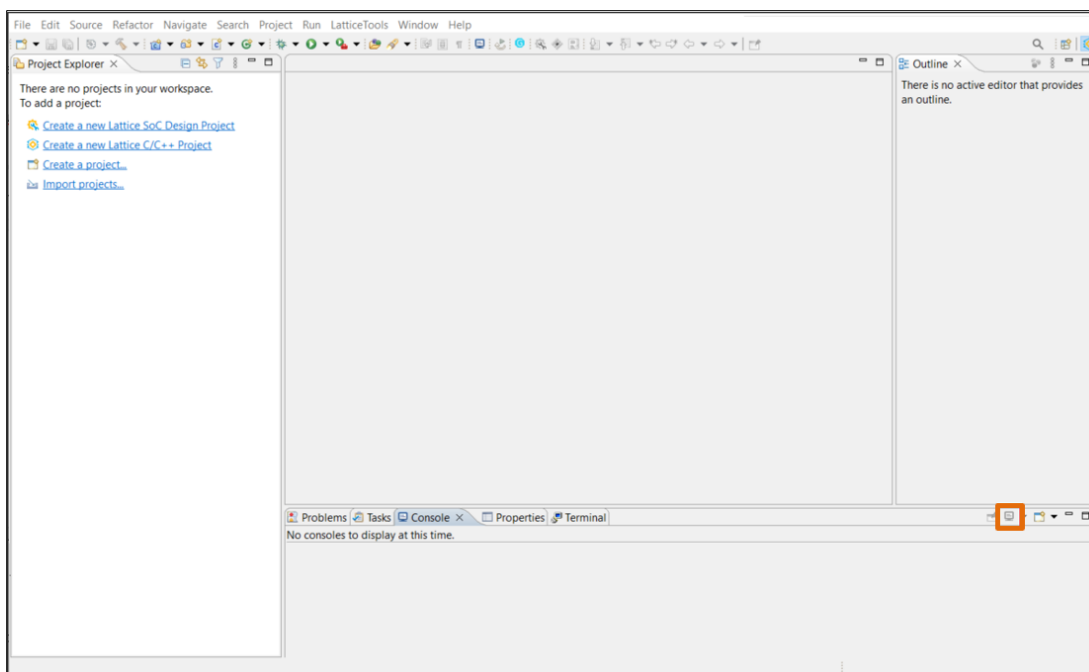

Figure 6.4. UART Terminal Icon on Propel SDK Window
3. Double-click on the terminal icon shown in Figure 6.4.